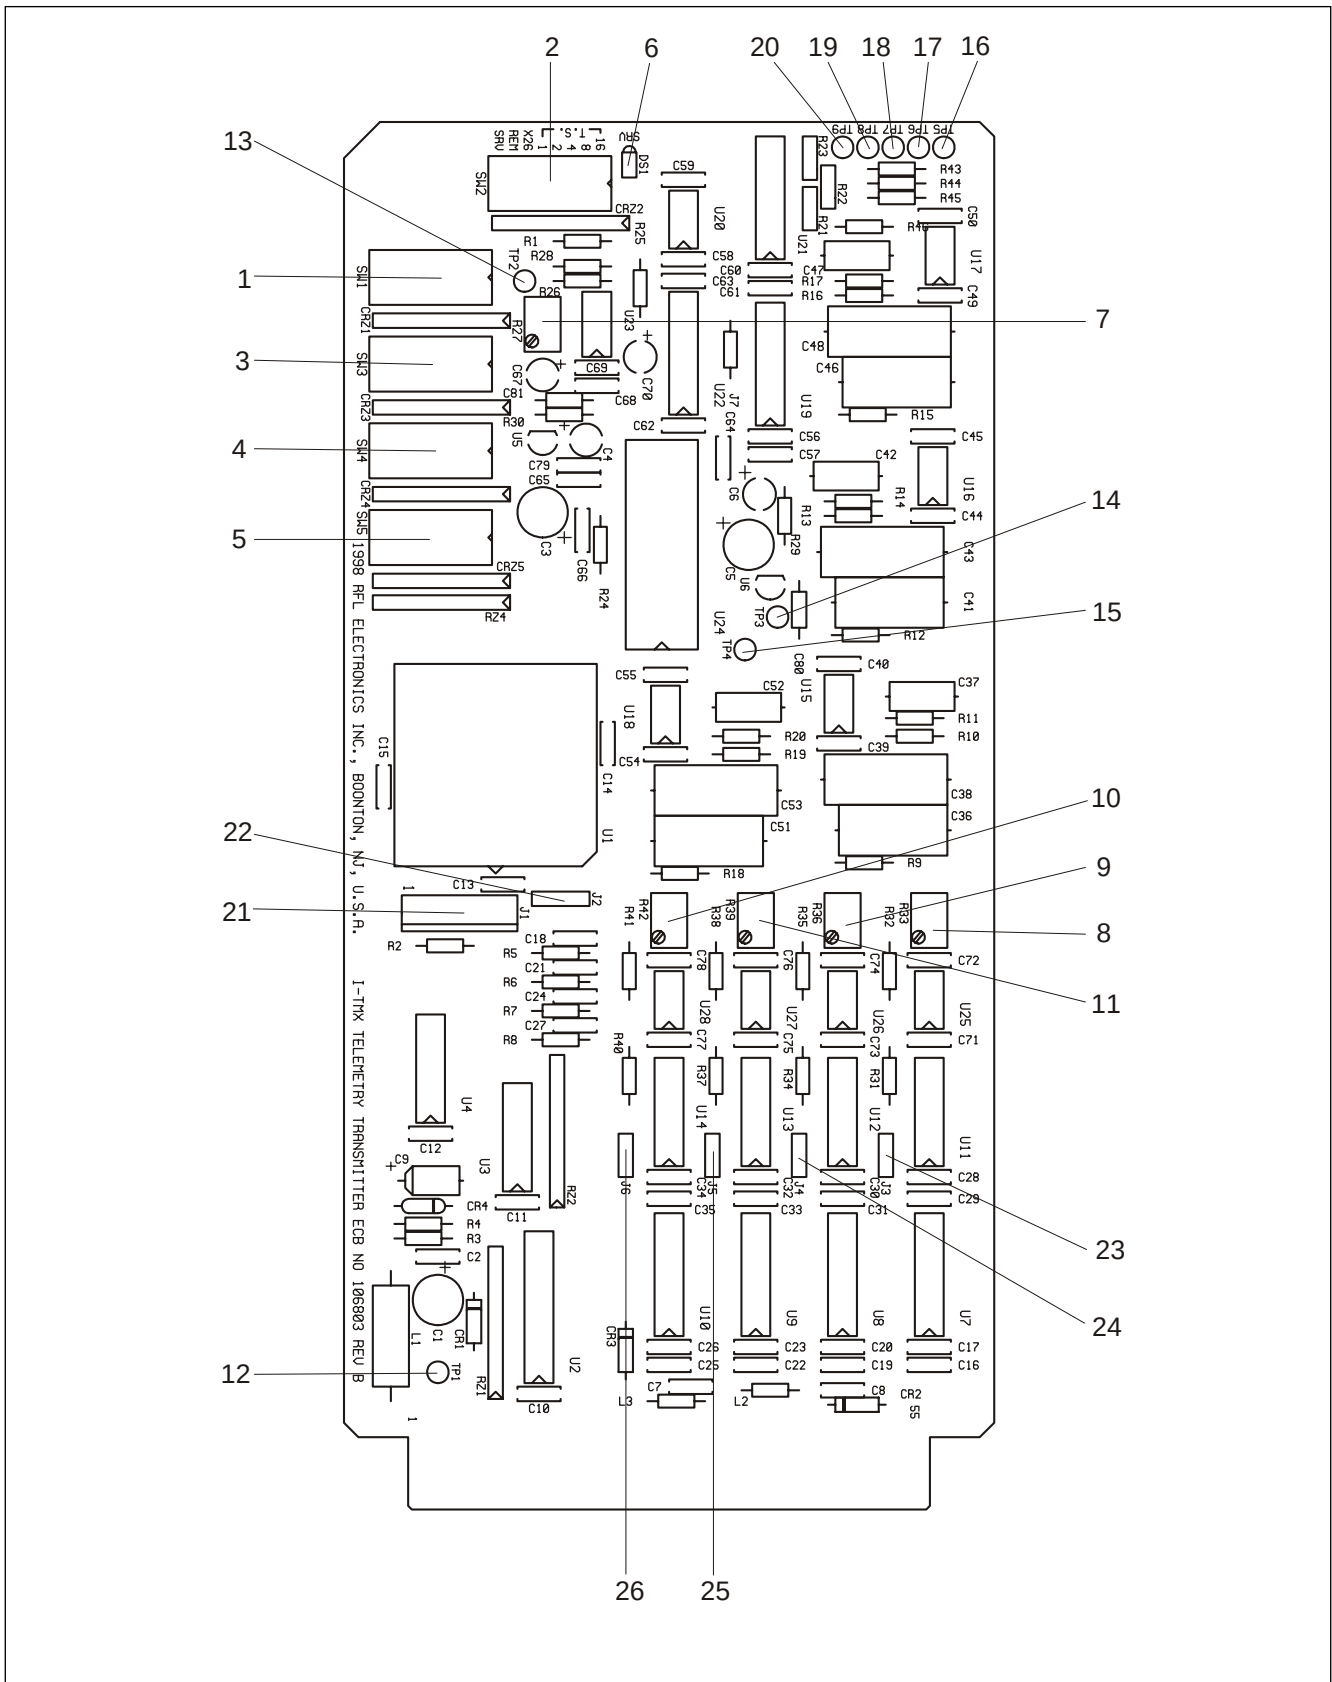

Figure 3. Controls and indicators, RFL TMX Telemetry Transmitter module
8. Refer to Figure 3 and Table 4 for the location and function of DIP switches on the TMX module.